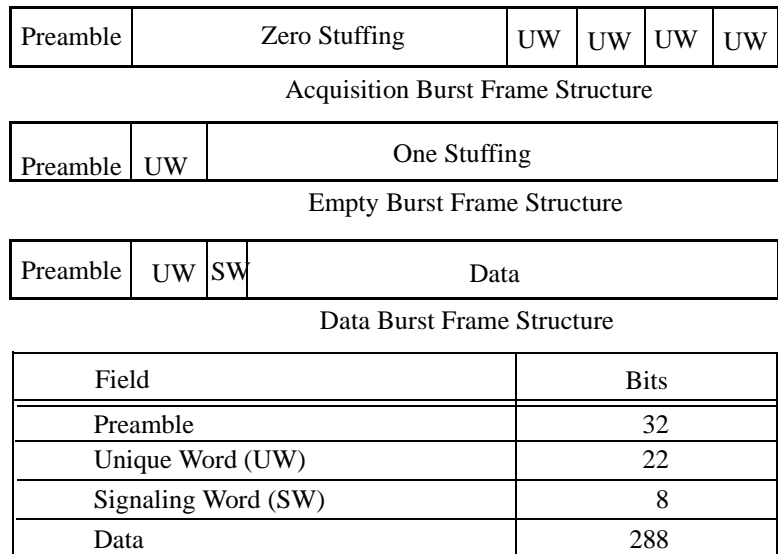

Figure 13.
Initially, the two communicating devices need to establish “sync”. The TDD protocol achieves this by using a special handshaking protocol. The Master first transmits an “acquisition burst”. The acquisition burst consists of 32 bits of preamble (binary 0’s), followed by 230 bits of “zero stuffing”, and four 22-bit unique words (UW). When the Slave receives the acquisition burst from the Master correctly (by decoding the 4 consecutive UWs), it sends an acquisition burst in response. When the Master receives the acquisition burst, it sends an “empty burst”. An empty burst contains a 32-bit preamble followed by a single 22-bit unique word, and 296-bit of “1” (One stuffing). In response to the master’s empty burst, the Slave also sends an empty burst back to the Master. When the Master receives the empty burst from the Slave, the communication link is considered to have been established and “sync” condition achieved. On the following burst, both the Master and the Slave start genuine data transmission by sending out “data bursts”. Each of the data bursts contain a 32-bit preamble, followed by a 22-bit UW, a 8-bit Signaling Word (SW), and 288 bits of user data. The three different types of burst frame structures are shown in Figure 13.